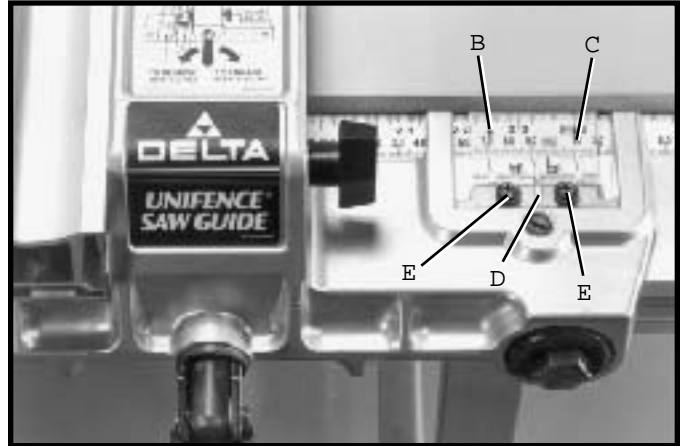

Fig. 95
5 The distance the fence is positioned away from the blade is indicated by the two witness lines (B) and (C) Fig. 95, located on the cursor (D). The witness lines (B) and (C) easily indicate the distance the fence is positioned away from the saw blade. Witness line (B) indicates the distance the fence is away from the blade when the fence is in the horizontal position, and witness line (C) indicates the distance the fence is away from the blade when the fence is in the vertical position. If it is necessary to adjust cursor (D), make a test cut with the fence in either the vertical or horizontal position, measure the distance of the finished cut and move the cursor (D) by loosening the two screws (E) Fig. 95. After adjustment is completed tighten the two screws (E).